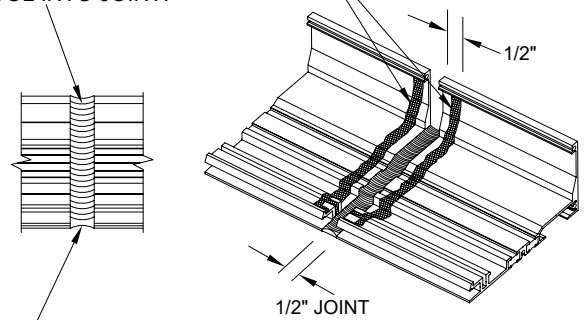

FIGURE 1
- Step 4: Apply bead of silicone within 1/2" of the edge of the sill members on each side of the 1/2" joint. (Figure 1)